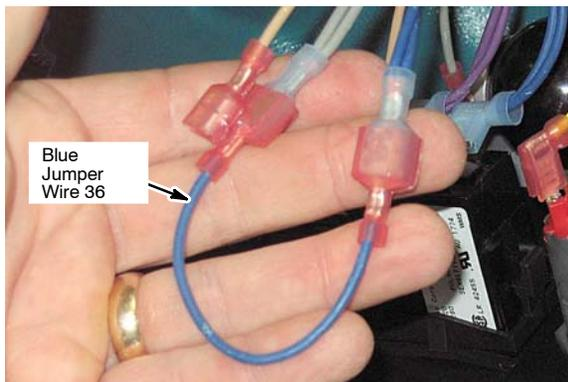

Fig. 26
- Within the lower control console wiring, locate and remove Blue Jumper Wire 36 from wires 8/8A Gray and 6/16 Blue and discard (Figure 26).